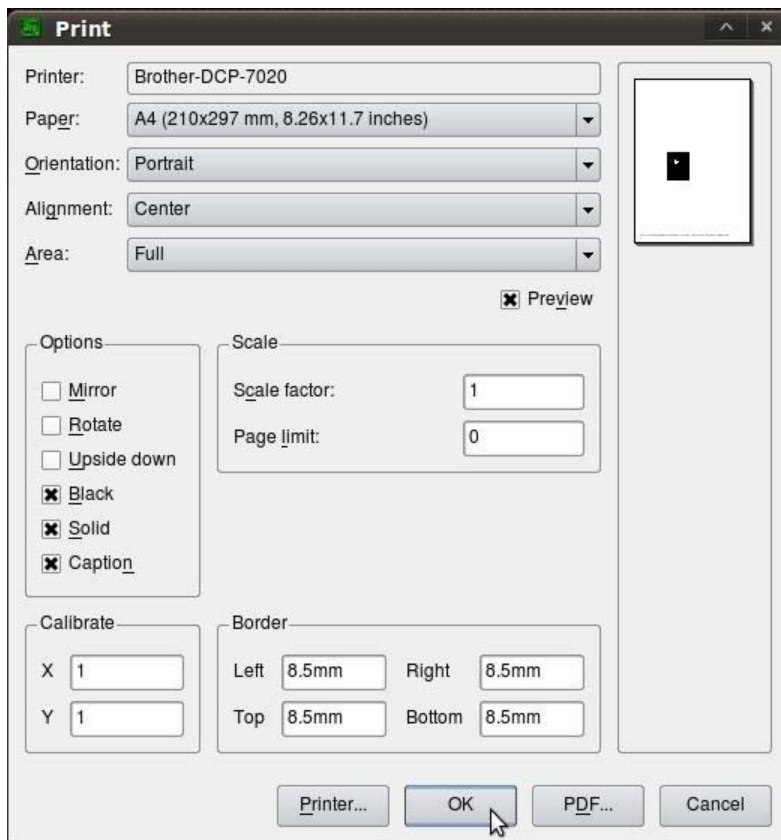

Figure 6-16. When you are ready to print, make sure you select the *Solid* and *Black* options from the *Print Setup* menu.
10. **Printing the design:** To print, go to File → Print and make sure the boxes are checked for Black and Solid in the Options box, as shown in Figure 6-16. Feed a piece of magazine paper into the manual feed tray of your laser printer, and press OK to print.
Following the directions described in the “Making a Design in Eagle” section for printing the designs (see Figure 6-16), select the Layers tool from the board editor menu and make sure that only the Bottom, Pads, and Vias layers are selected. You should now see only the blue bottom layer and the green pads and vias where holes will be drilled. Remember that when you open a design that has a Ground plane in Eagle, you must first select the Ratsnest tool to fill it in. After filled, the design is ready to print.